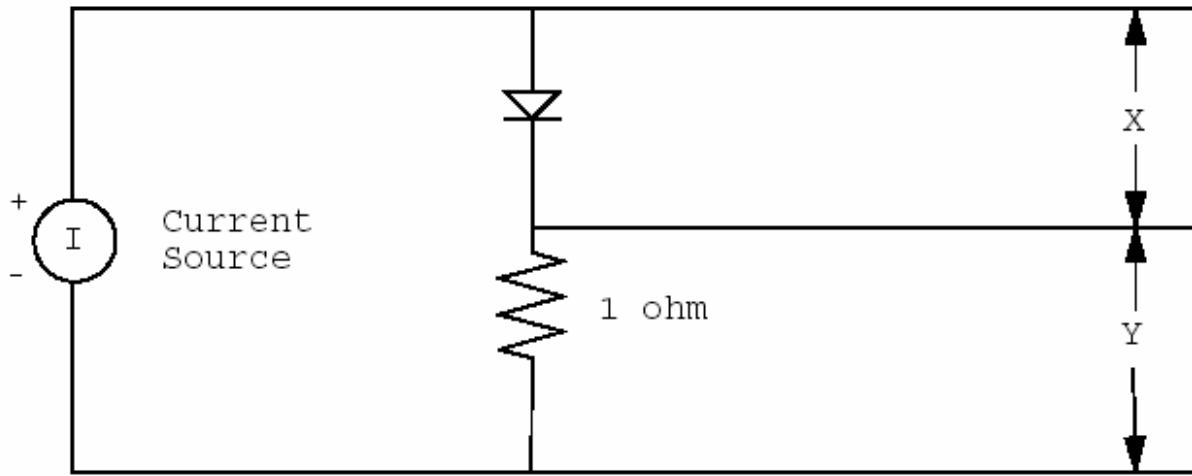

Figure 4.
- F-1. Connect the circuit of Figure 4 using a 1N4002 diode but do not connect it to the current source.
Set the Y-scale of the X-Y recorder on 50 mv/cm and the Xscale on 200 mv/cm. Use ONLY the +/- (or HI/LO) inputs to the X-Y recorder. Place the axes for the plot two centimeters right of the center of the graph paper. Place the current setting of the current source at its lowest setting (both vernier and multiplier). Set the voltage limit of the current source to no more than 10 volts. Connect the diode circuit of Figure 4 to the current source and obtain the forward-biased diode I-V curve by varying the current vernier and multiplier output up to 200 mA (points may be easier to plot than a continuous curve).
- F-2. Disconnect the current source from the diode circuit of Figure 4. Place the current setting of the current source at its lowest setting (both the vernier and multiplier) and set the voltage limit to 50 volts. Set the Y-scale of the X-Y recorder on 10 mv/cm and the X-scale on 5 v/cm. Connect the current source to the diode circuit of Figure 4 IN THE REVERSE DIRECTION. Obtain the reverse-biased diode I-V curve by varying the current vernier and multiplier output up to 40 volts.
- F-4. Disconnect the current source from the diode circuit of Figure 4. Place the current setting of the current source at its lowest setting (both the vernier and multiplier) and set the voltage limit to 10 volts. Set the Y-scale of the X-Y recorder on 50 mv/cm and the X-scale on 0.5 v/cm. Connect the current source to the diode circuit of Figure 4 IN THE REVERSE DIRECTION. Obtain the reverse-biased diode I-V curve by varying the current vernier and multiplier output up to 100 mA.